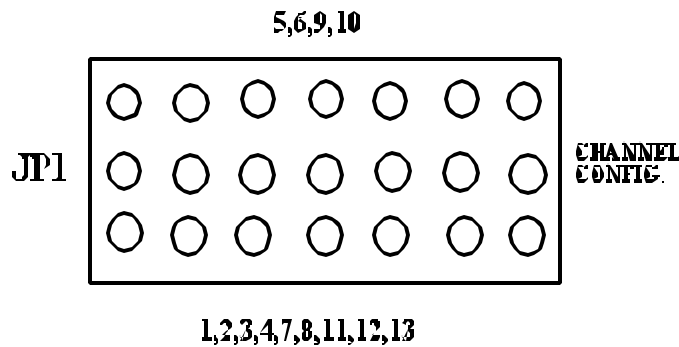

Figure 1. ASM Card Jumper Block
6. On both the operational and spare ASC, set the backup channel configuration using the seven jumpers on JP1. Using all seven jumpers, move the jumpers to the side of the block that lists the number of output channels for your site configuration, the center row of pins being common. Example: Using **Figure 1** as a reference if your site configuration had 5, 6, 9, or 10 channels, each jumper would connect from the center row of pins to the top row of pins. If your site configuration had 1, 2, 3, 4, 7, 8, 11, 12, or 13 channels, each jumper would connect from the center row of pins to the bottom row of pins.